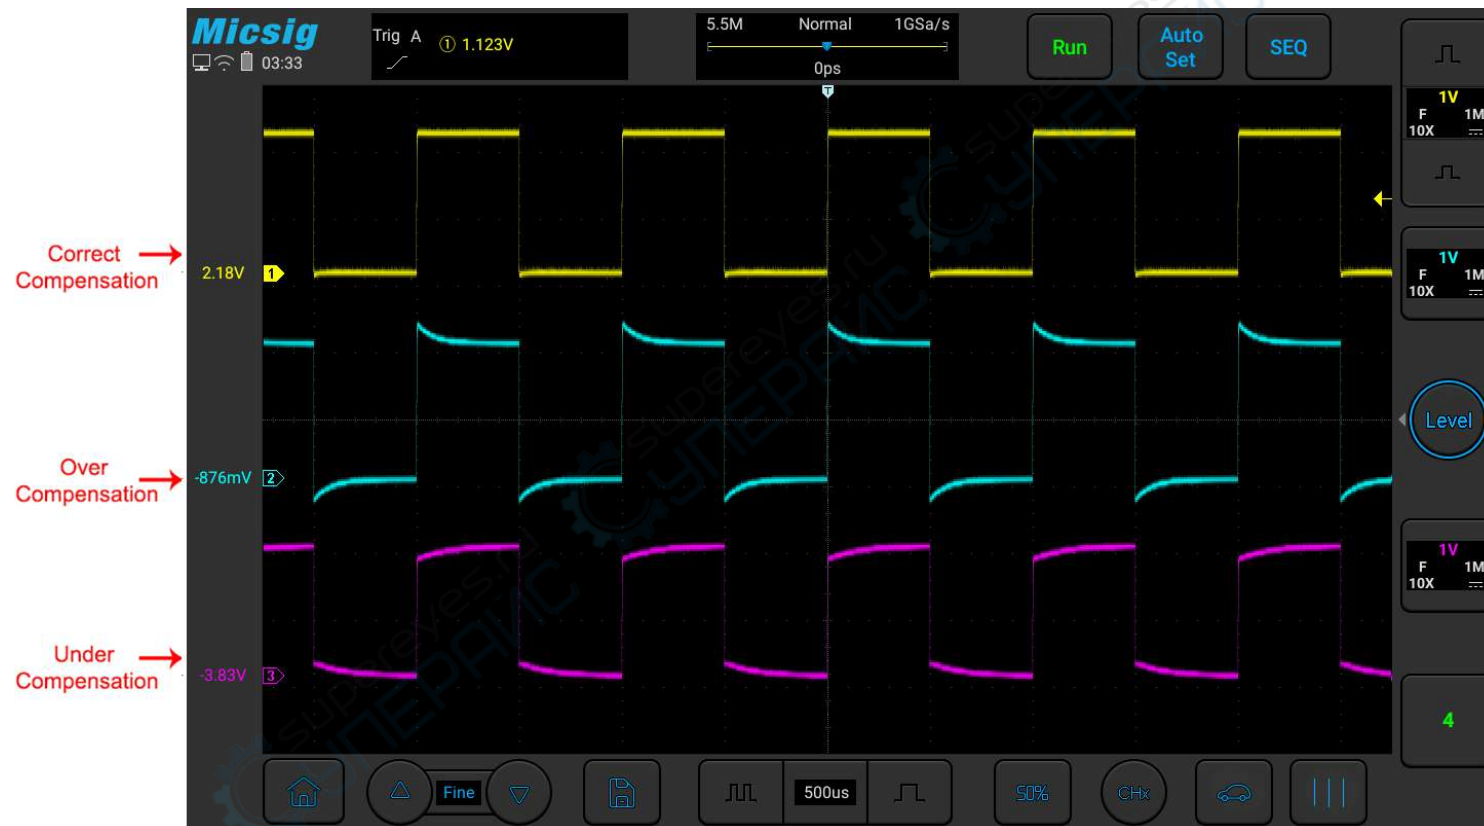

Figure 2-14 Probe Compensation
- 5) Tap **Auto Set** button or manually adjust the waveform vertical sensitivity and horizontal time base. Observe the shape of the waveform, see Figure 2-14.